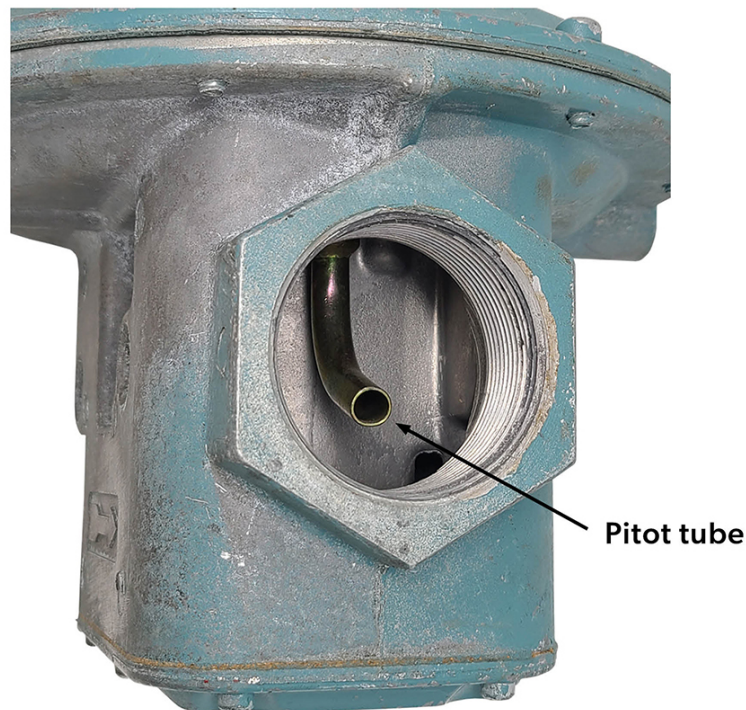

Figure 32. Pitot tube
Consequently, the internally-sensing regulator is tricked into opening farther due to this false low pressure, then if it had been sensing pressure through an external downstream control line. This increased flow can translate into improved accuracy. Some internal sensing regulators have a pitot tube in order to place the sensing point at the optimal location (Figure 32), so that the boosting effect will counteract the droop effect but not boost too much.
- Figure 32. “Pitot tube” by Rod Lidstone is licensed under a CC BY-NC-SA licence.